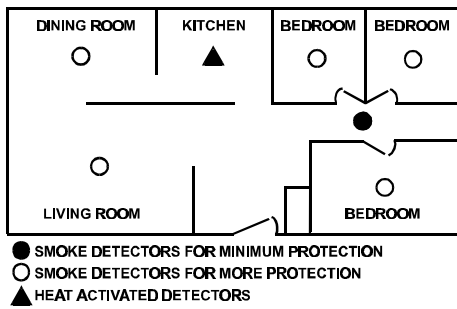
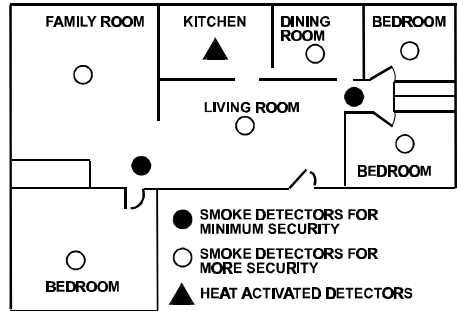

Figure 3. Placement of a Smoke/Heat Detector in a Single-Floor Residence with Only One Sleeping Area
Figure 4. Placement of Smoke/Heat Detectors in Single-Floor Residence with More than One Sleeping Area
- Install a smoke detector in the hallway outside every separate bedroom area, as in Figure 3. Two detectors are required in homes with two bedroom areas, as in Figure 4.